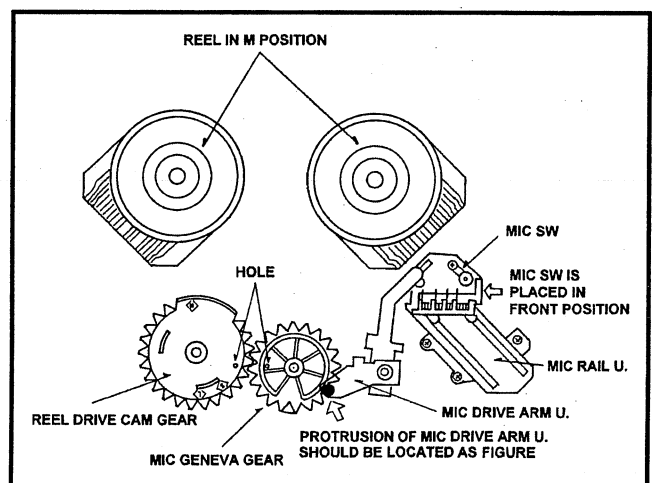

Fig. 6-22-3 Gear Phase Adjustment
4. Place the MIC SW at the front position on the MIC Rail Unit (the nearest portion to the reel) by rotating the MIC Geneva Gear. Then the MIC Geneva Gear should be positioned as shown in Fig. 6-22-3.
Note: The protrusion of MIC DRIVE Arm Unit is positioned as shown in Fig. 6-22-3.
5. Install the Reel Drive Cam Gear so that the hole of Reel Drive Cam Gear should be matched with the hole of MIC Geneva Gear as shown in Fig. 6-22-3.
- 3) Protrusion of MIC Drive Arm Unit is positioned as shown in Fig. 6-22-3.